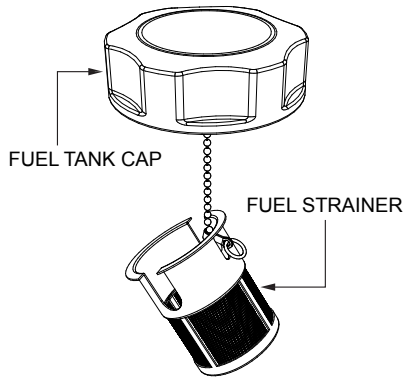

Figure 60. Fuel Strainer
3. Remove, inspect, and clean the fuel strainer (Figure 60) with solvent.